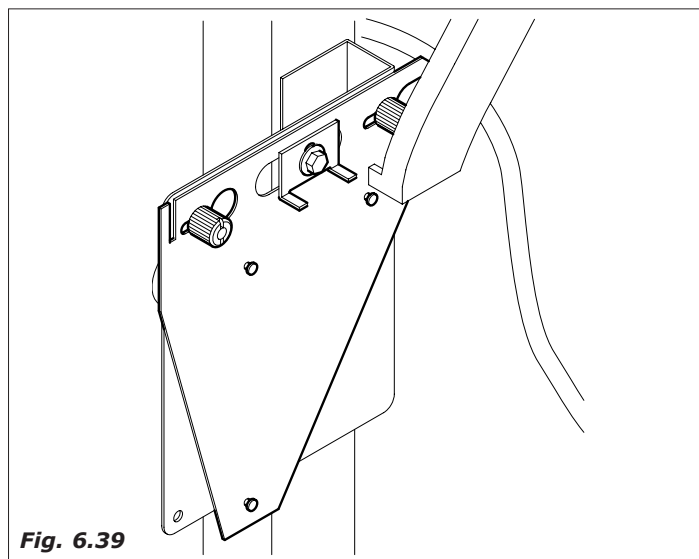

Fig. 6.39
- remove the support bracket from the machine (Fig. 6.39)